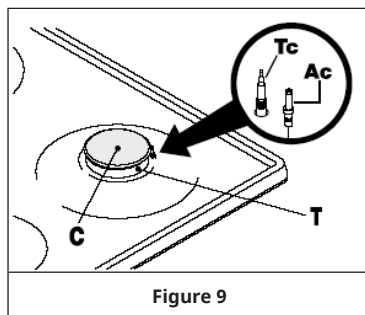

Figure 9
Automatic electrical ignition (only certain versions, see figure 9, ref. Ac)
Lighting of burners equipped with safety thermocouples (only certain versions, see figure 9, ref. Tc)
1. In case burners are fitted with Flame Safety Device (FSD = Thermocouple, figure 9, Tc), repeat operations described previously.
- The surface of the hob, pan supports, enamelled burner caps (C) and burner heads (T) (see figure 9) need to be cleaned after each time they are used with warm soapy water, rinsed and then dried well to keep them in good condition. Never clean when the top and components are still warm.
- Check that the heads burners and the relative burner caps are correctly positioned in their housings (see figure 9).